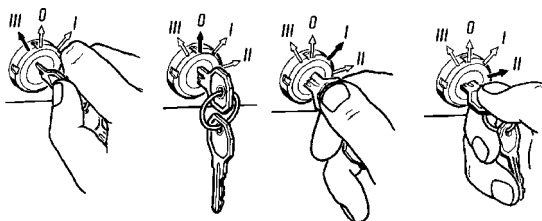

Fig. 15. Position of ignition key:
1) On the automobiles YA3-33036, YA3-39094, YA3-39095 the high beam warning lamp, oil emergency pressure warning lamp and radiator coolant emergency overheating warning lamp are located in the warning lamp unit ( refer to positions 21, 22, 23 Fig. 15).